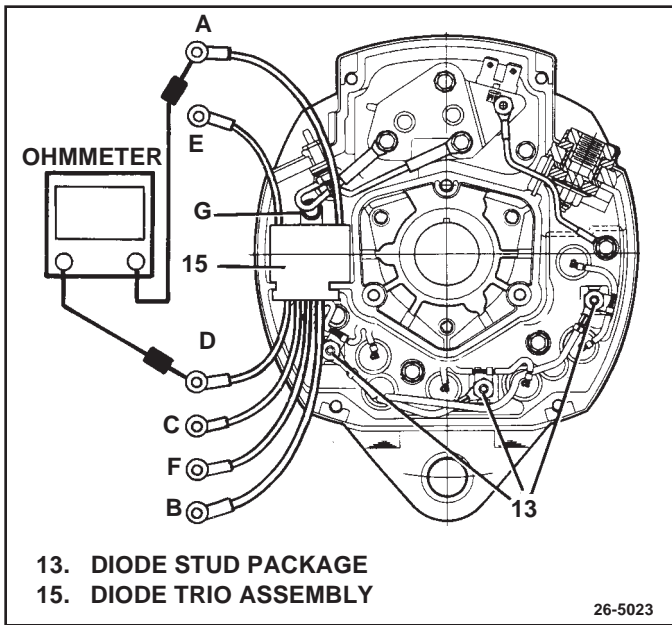

Figure 15. Electrical Check of Diode Trio Assembly
- Use ohmmeter or diode check function on multimeter to check diode trio (15). (See Fig. 15) Place negative ohmmeter lead on regulator lead (A) and use positive ohmmeter lead to check for continuity to each of the three phase leads (B, C, D). All three readings should indicate continuity. Reverse the ohmmeter leads and perform checks again. Readings should all indicate open circuits.